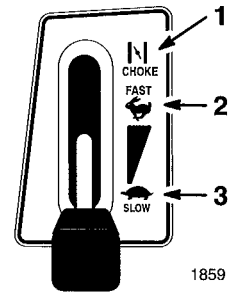

Figure 4
4. Move the throttle lever to “CHOKE” (Fig. 4).
6. After the engine starts, slowly move the throttle lever to “FAST” (Fig. 4). If the engine stalls or hesitates, move the throttle lever back to “CHOKE” for a few seconds. Then move the throttle lever to “FAST.” Repeat this as required.
1. Move the throttle lever to “SLOW” (Fig. 4).